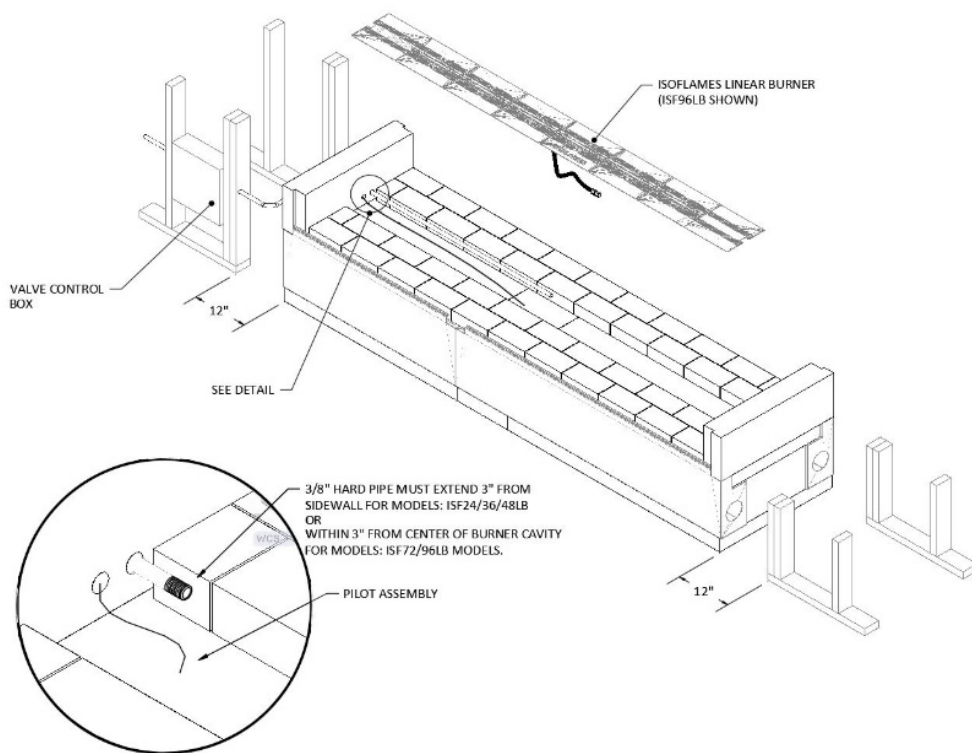

FIGURE 61
- 4) The 48” and 72” Maximus Linear See-Thru fireplaces (82L48ST & 82L72ST) will require the ISF36/60LB (respectively): Gas supply piping for these models shall terminate not less than 3” from sidewall. (Figure 61)
- 5) The 96” and 120” Maximus Linear See-Thru fireplaces (82L96ST & 82L120ST) will require the ISF72/96LB (respectively): Gas supply stub piping for these models shall terminate within 3” from center of the cavity. (Figure 61)